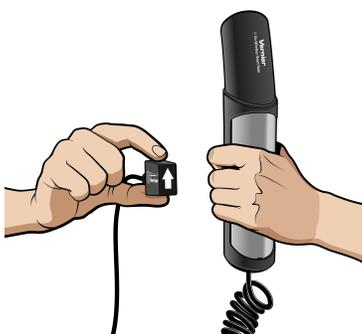

Figure 1
- If the hand grips use a Polar Transmitter Module, ensure that it is securely attached to the hand grips. The receiver is marked with a white alignment arrow as shown in Figure 1. Locate this arrow. If the handle is marked with an alignment arrow, locate this arrow as well.
- Another group member should hold the receiver near the handles so that the alignment arrow is pointing up as shown in Figure 1. If the Hand Grips have alignment arrows, make sure that the arrow on the receiver and the arrow on the Hand Grips are aligned in the same direction. **Note:** The receiver must stay within 60 cm of the handles during data collection.